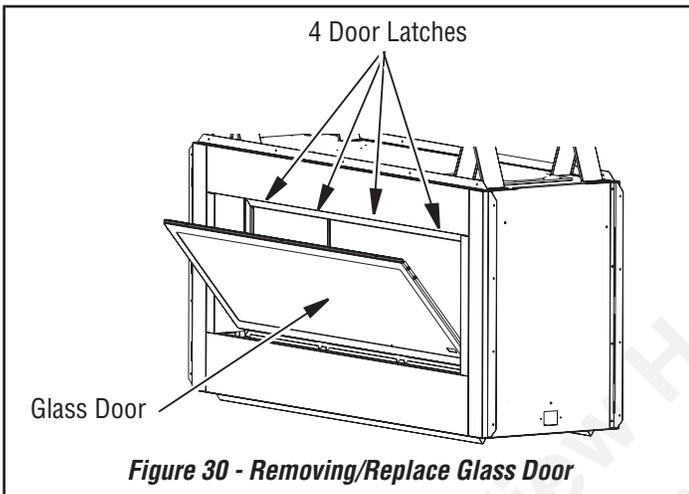

Figure 30 - Removing/Replace Glass Door
4. Tilt open glass door about 15° from the top of firebox and lift up to release door from retaining channel (see **Figure 30**, page 32).
1. Position door frame in front of firebox opening tilting top of door about 15° toward you. Insert bottom flange of glass door into the retaining channel at the bottom of firebox (see **Figure 30**, page 32). Make sure door is center with firebox opening.